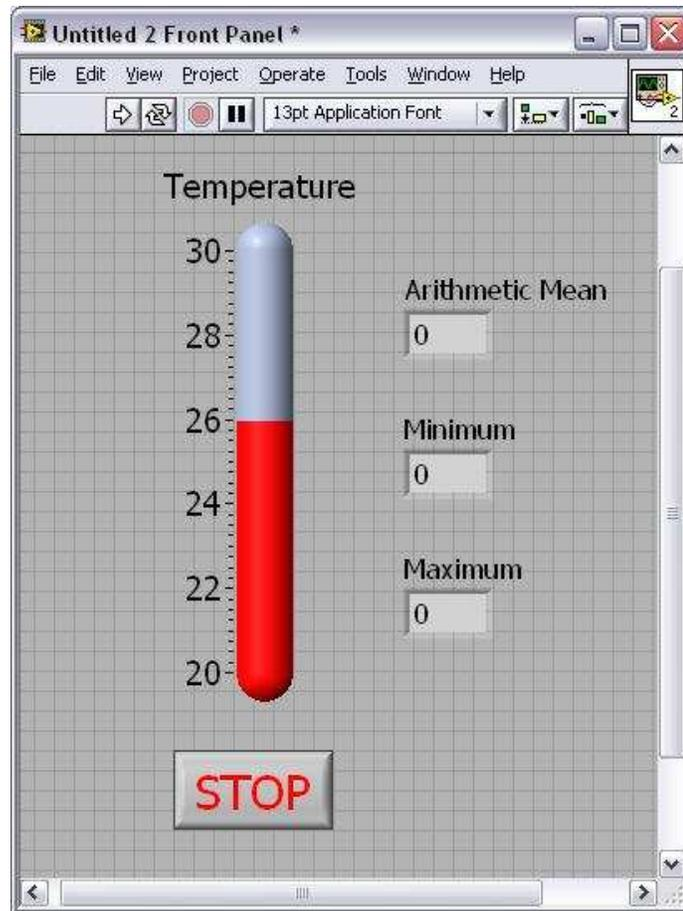

Figure 1:
- Also replace the **Stop (F)** button with **Stop (Boolean)** button.
- Switch to the front panel and rearrange your controls and indicators if necessary. The front panel should look like that shown in figure 1.